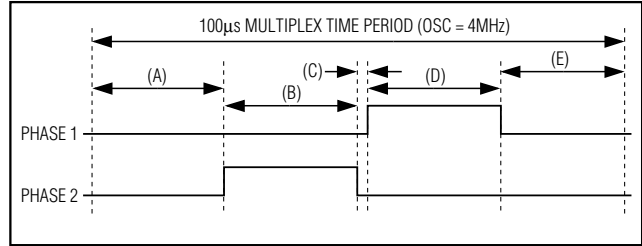

Figure 18. Filament Bridge Driver Timing Waveforms
The waveform generation uses PWM to set the effective RMS voltage across the filament, as a fraction of the external supply voltage (Figure 18) (Table 35). The filament switching frequency is synchronized to the multiplex scan clock, eliminating beating artifacts due to differing filament and multiplex frequencies.
The minimum commutation time, shown at (C) in Figure 18, is set by  $(2/OSC)s$  (500ns when  $OSC = 4MHz$ ) to ensure that shoot-through currents cannot flow during phase reversal. Otherwise, the duty cycle of the bridge sets the RMS voltage across the filament. This technique provides a low-cost AC filament supply when using a regulated supply higher than the RMS voltage rating of the filament.